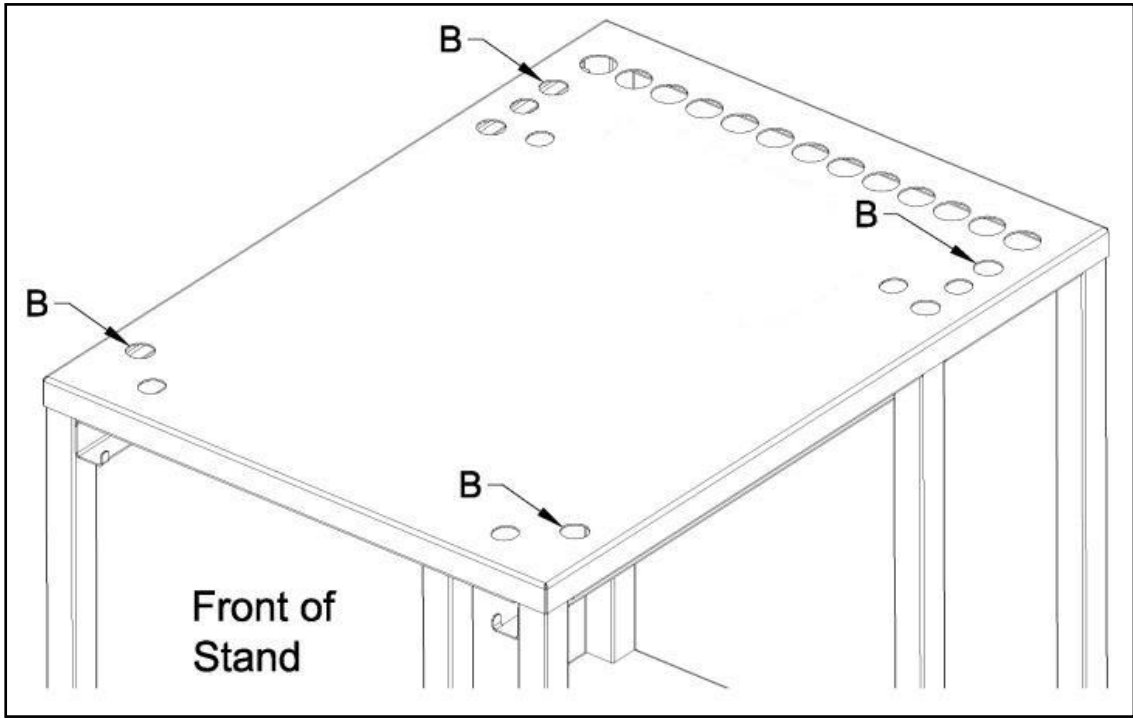

Figure 3
4. Align steamer so that mounting bolts come up through holes marked "B" in Figure 3.